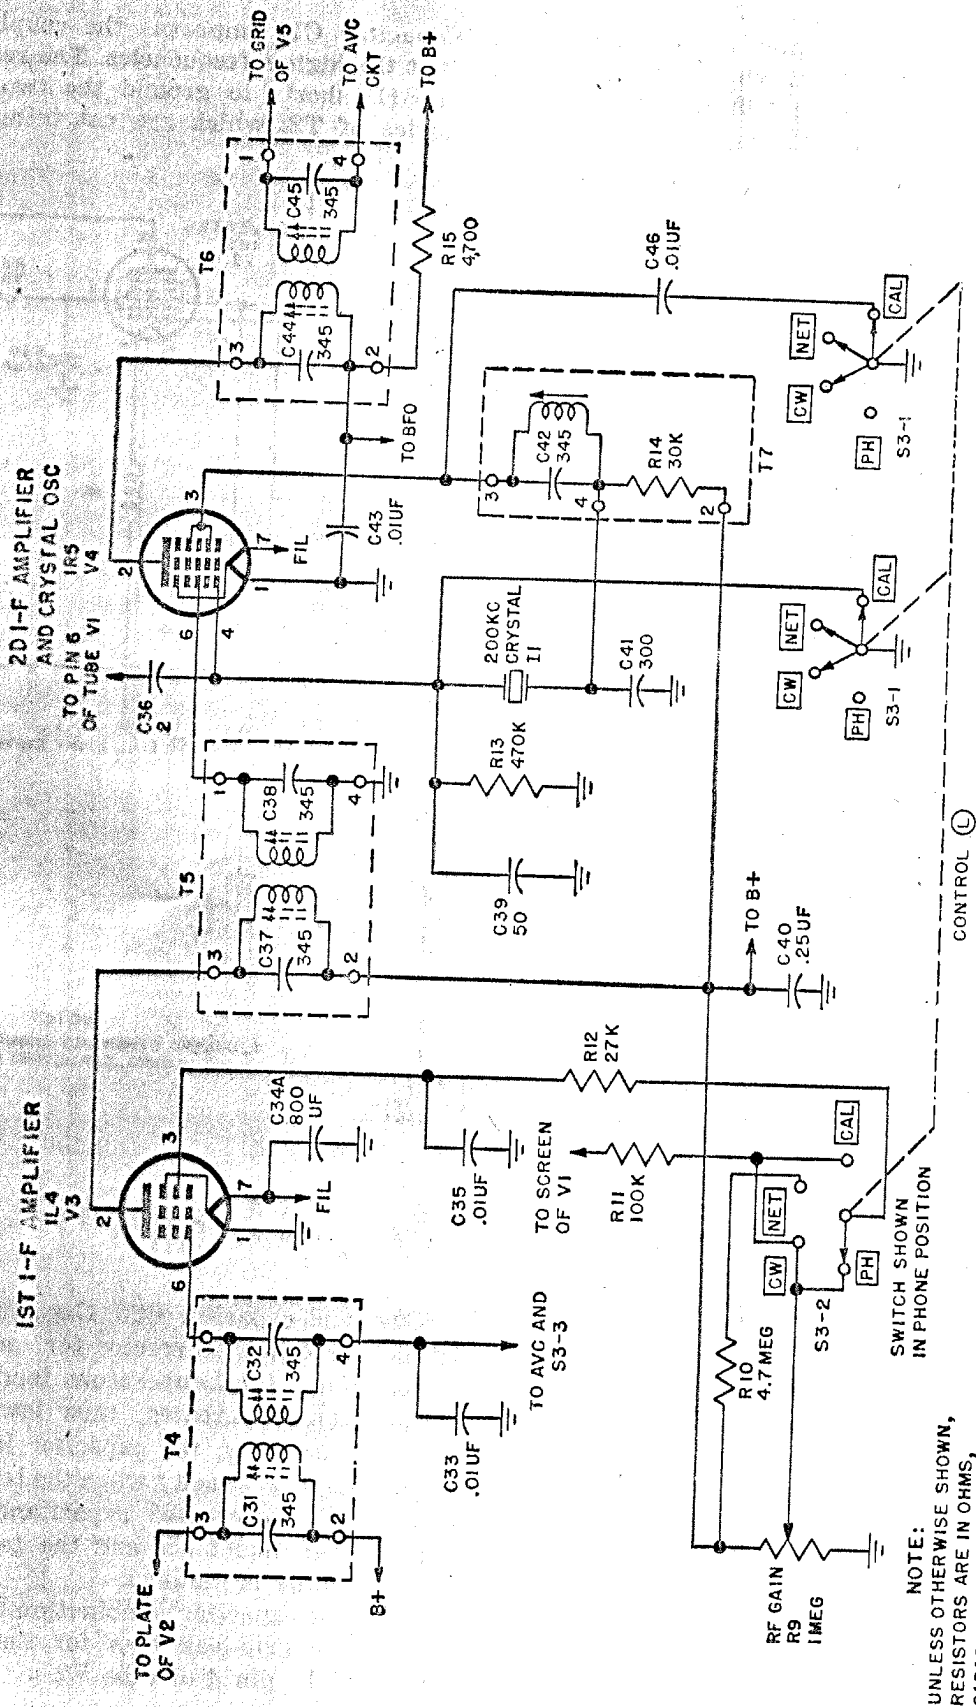

Figure 59. I-f amplifiers, simplified schematic.
7. The h-f oscillator is tuned by \odot TUNING capacitor C7C so that it is always 456 kc higher in frequency than the signal frequency. Thus, when the received signal from the r-f amplifier is applied to grid 3, pin 6 of tube V2, the two frequencies will beat together, forming sum and difference frequencies. The tuned primary of i-f transformer T4 in the plate of the mixer section is resonant at the difference frequency of 456 kc and, therefore, allows only this frequency to continue on to the first i-f amplifier V3 (fig. 59). The primary and secondary of i-f transformer T4 are shunted by capacitors C31 and C32, respectively. These capacitors, combined with adjustable powdered iron cores inserted in the primary and secondary coils, tune the transformer to 456 kc.
84. I-F Amplifiers V3 and V4 (fig. 59)